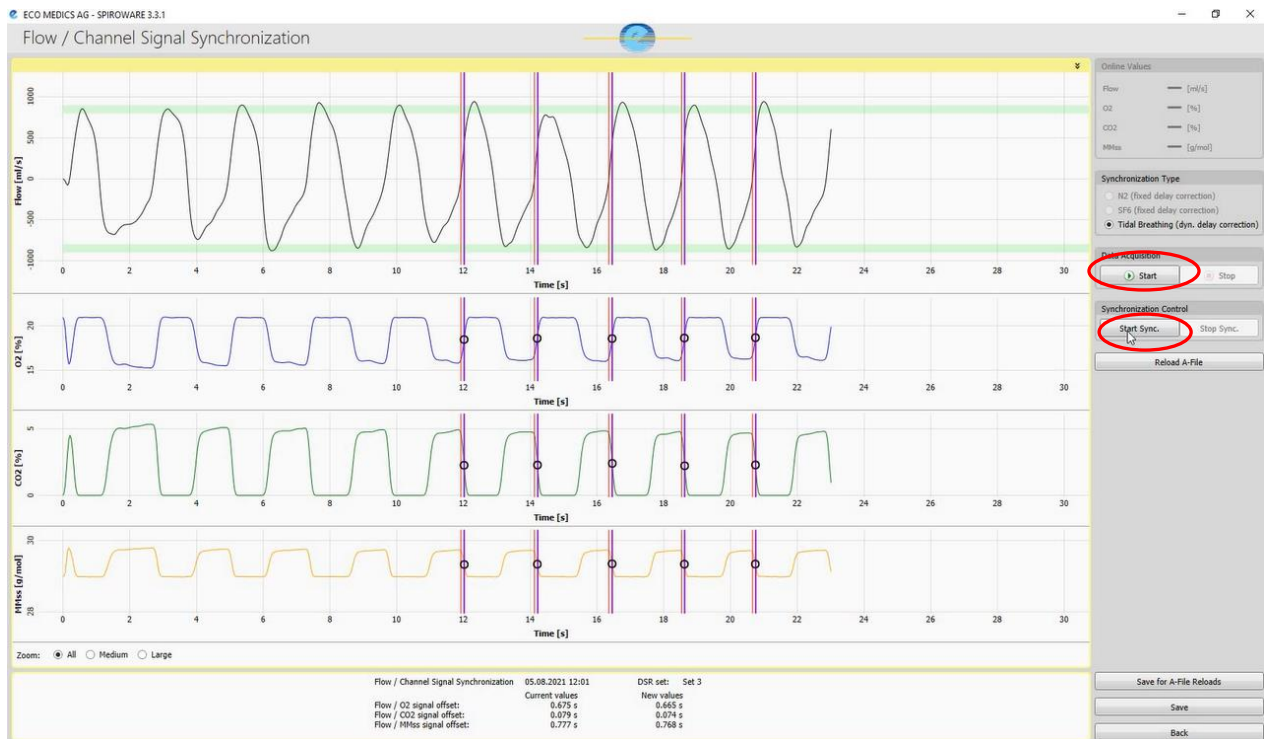

Figure 3. Flow/Channel Signal Synchronization; Set 3, 10 breaths
7. Wearing nose clips, place mouth on mouthpiece and begin tidal breathing through the system; press **Start** (Figure 3).
8. As soon as breathing pattern is stable, select **Start Sync.** (Figure 3).